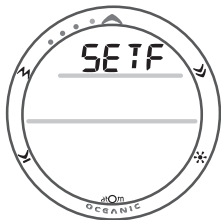

Fig. 41 - SET F
- > Depressing the A and S buttons simultaneously for 2 seconds while the NORM or GAUG SURF MAIN screen is displayed will access SET F identified by the graphic SETF (Fig. 41).